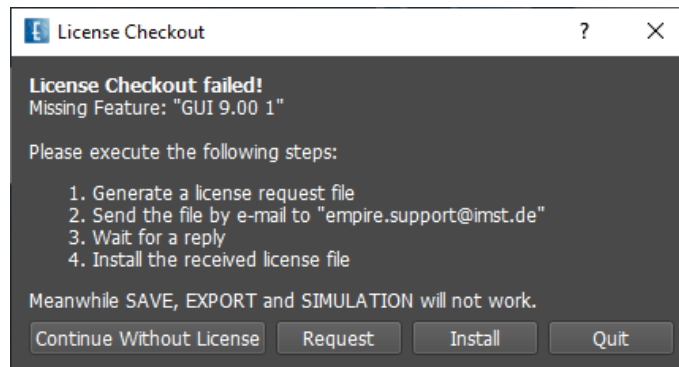

Figure 2.3.: EMPIRE XPU™ License check
- **License Request** Starting Empire and clicking the **Request** button, see Fig.2.3
If no license can be found or a license has expired the following window as in Fig. 2.3 will come up.